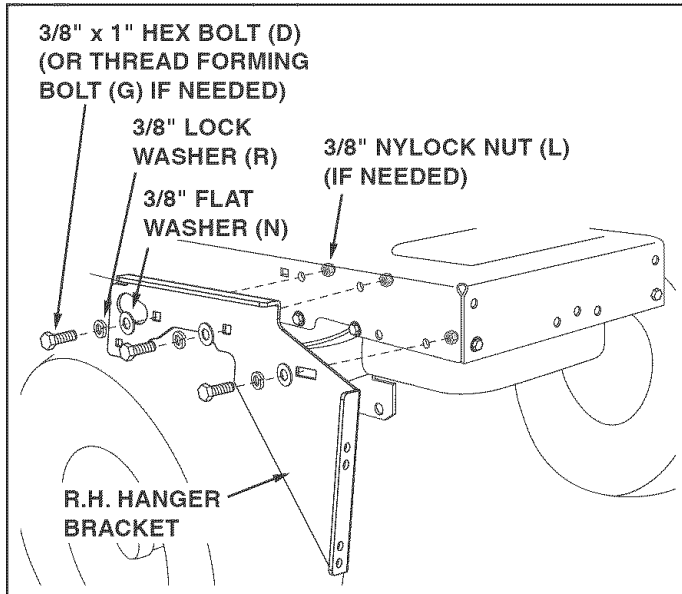

FIGURE 8
STEP 8: (SEE FIGURE 8)
- Attach the R.H. hanger bracket to the three holes shown on the side of the tractor frame using three 3/8" x 1" hex bolts (D), 3/8" lock washers (R) and 3/8" flat washers. Use 3/8" nylock nuts (L) on inside of frame if bolts insert freely into holes. **Tighten.**